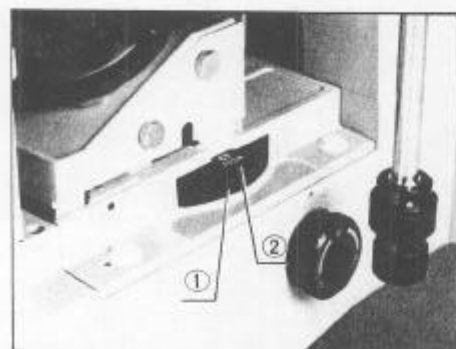

Fig. 30
- 1) Rotate the magnification changer dial ① to position "CT". (Fig. 30)
- 2) Rotate the focus ring ② to focus on the exit pupil of the 10X objective (located at the same plane as the phase annulus of the phase objective, the light annulus of the phase contrast condenser or the aperture iris diaphragm). (Fig. 30)